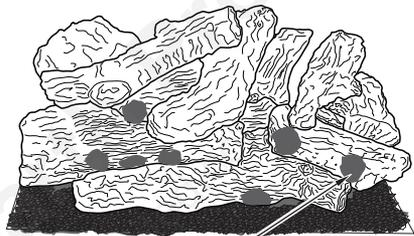

Figure 27 - Installing Ember Flakes
4. Place ember flakes around front and sides of burner and on burner ports (see Figure 27). This will create the glowing ember appearance as the flame touches the ember flakes. Do not block burner ports or pilot ports by overlapping ember flakes in one area. It is not necessary to use all ember material provided.